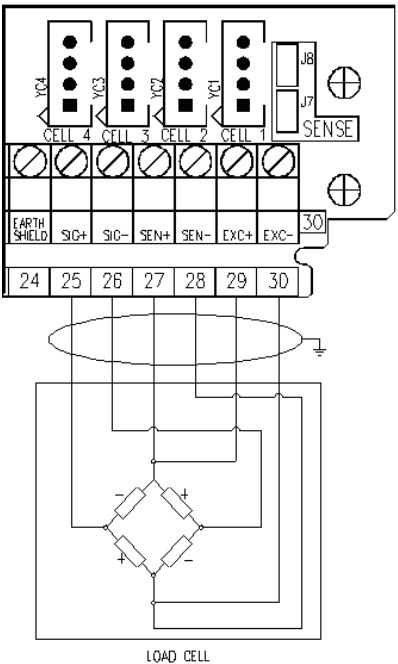

Figure 1. Analog 6 wires load cell connection
- The shielding can be connected into a single point of the entire network (as shown in Figure 1) or both its ends, however it's important that all the masses have the same potential, in order to avoid the forming of current rings.